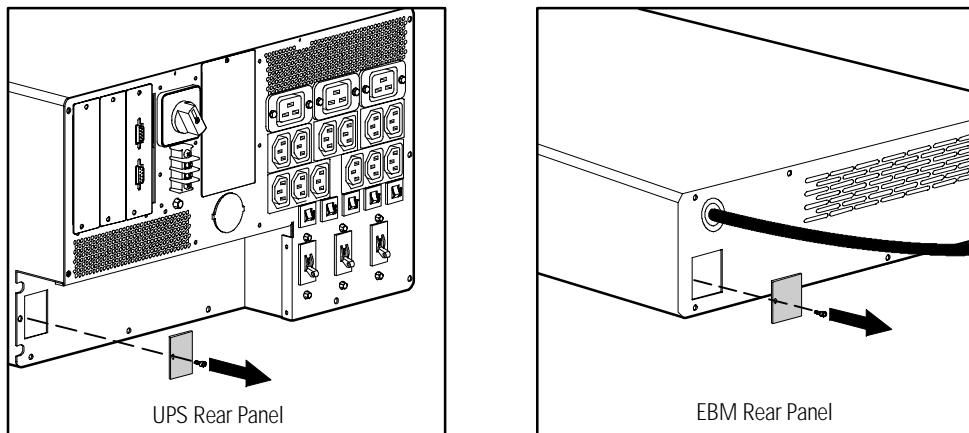

Figure 5. Removing the EBM Connector Covers
2. Remove the EBM connector cover on the UPS. If a second EBM is to be used, remove the EBM connector cover on the first EBM (see Figure 5).